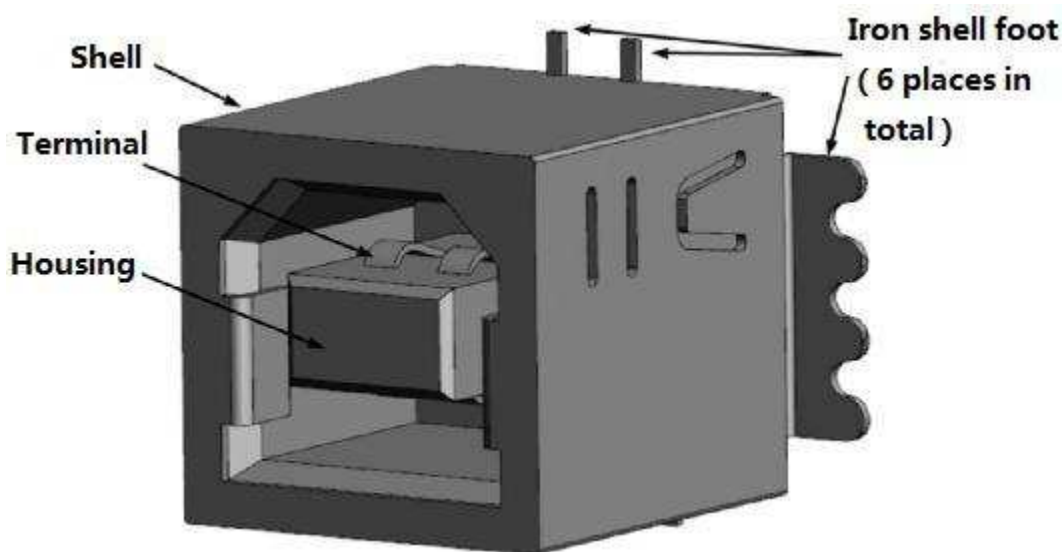

Figure 1
- Product include Shell,Housing,Terminal, See Figure 1.